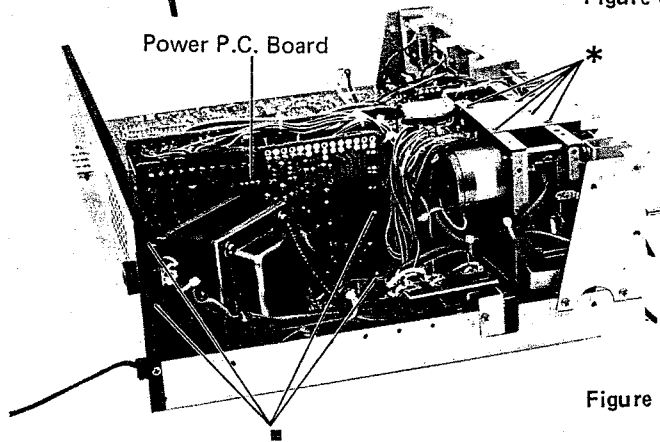

Figure 8
- (2) Remove four screws marked "■" as shown in Figure 8.
- (3) Disconnect all wires from the control P.C. Board and power P.C. Board.
- (4) The P.C. Boards can be completely removed from the chassis.
- (1) Remove five screws marked "*" as shown in Figure 8.